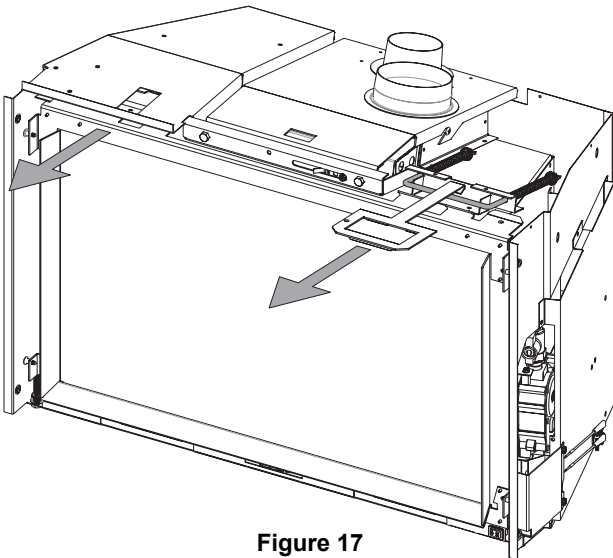

Figure 17
19. Remove glass door assembly: Using the glass door latch tool provided, hook onto the latches on the top of the insert and pry it over the glass door assembly flanges. The top of the glass door assembly will angle toward you. Simply lift to remove the glass door assembly. See Figure 17.